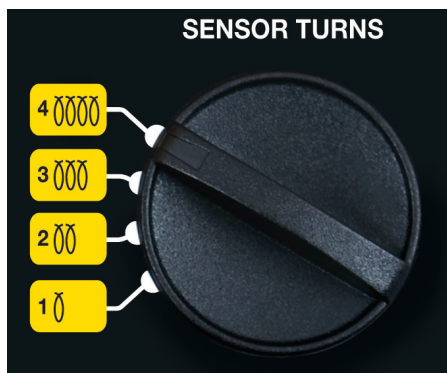

Figure 4
4. Confirm that the umbilical cable connection between the 6472 and 6474 is secure. Check the position of the rotary switches (Input, Sensor Turns and Sensitivity) on the 6474 to be sure they match the test requirements (see Figure 4).